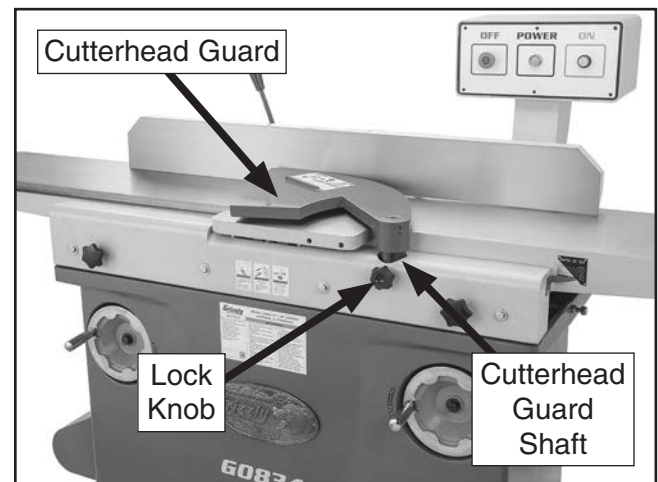

Figure 65. Cutterhead guard lock knob location.
2. Loosen lock knob (see **Figure 65**) that secures cutterhead guard shaft.